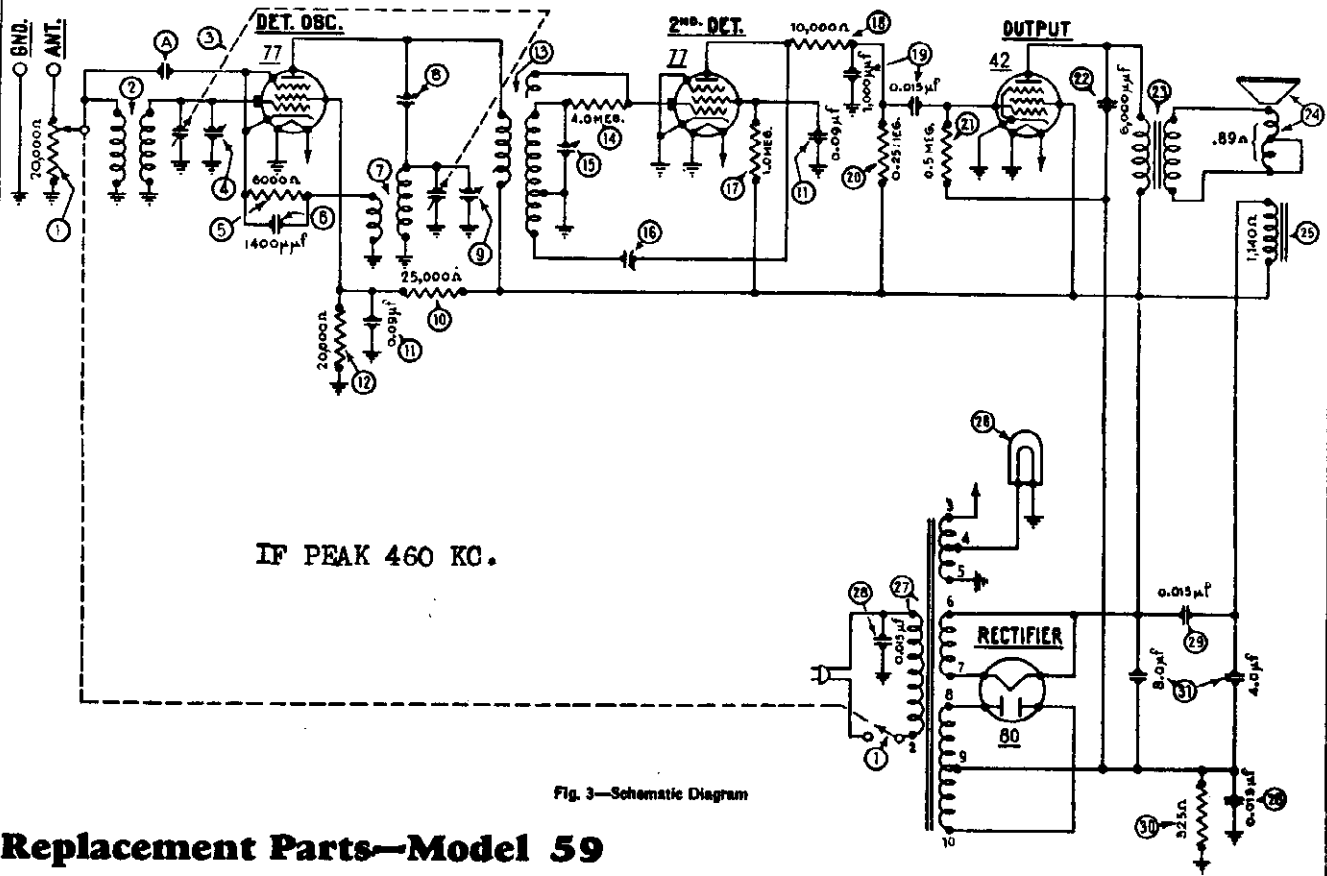

Fig. 3—Schematic Diagram
Referring to Fig. 3, the I. F. primary and secondary condensers ③ and ④ should be adjusted first. Use an accurate signal generator such as the Philco Model 024. Remove the grid cap clip from the detector-oscillator tube and connect the antenna lead from the signal generator to the cap of this tube. Connect the ground lead from the signal generator to the ground terminal of the set. Connect the primary terminals of the output transformer to an output meter. Set the frequency switch of the signal generator at 460 K.C. (the I. F. of model 59), and turn the switches of the set and signal generator on. Turn volume control full on. Turn the dial pointer on the set to 600, and then adjust the I. F. compensating condensers ③ and ④ by means of a fibre wrench so that maximum reading is obtained in the output meter. If the needle goes off scale, adjust the attenuator on the signal generator so that a lower reading is obtained.